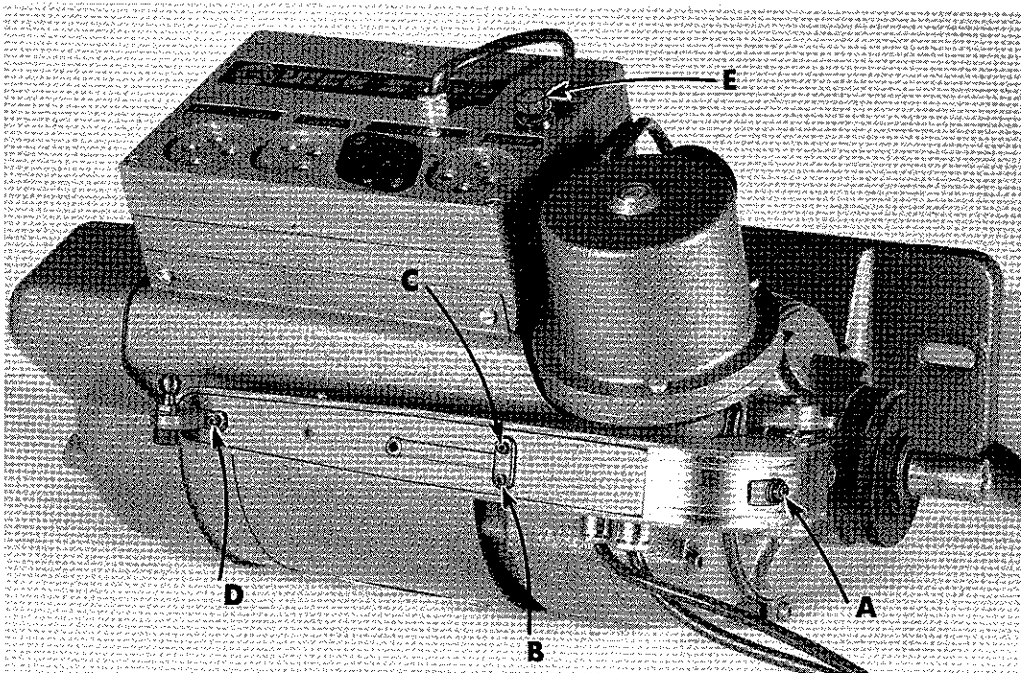

Fig. 42
Adjustment of the micro switch, located on the right hand side of the clutch arm, which actuates the magnetic clutch, should be made as follows; with the treadle in "rest position". Turn the set screw (A, Fig. 42) in a clockwise direction until the switch closes and the auxiliary control starts running. Now, turn the set screw in a counterclockwise direction to the position where the auxiliary control stops running. Continue to turn the set screw counterclockwise 1/2 to 1 complete revolution to obtain the correct setting of the switch.
However, if the needle travels right through the down position to the up and trim position, this indicates micro switch is open. Screw (B, Fig. 42) should be turned clockwise until micro switch is closed when treadle is in rest position.
If the down only position is desired, turn screw (B, Fig. 42) clockwise until micro switch is closed when treadle is in the rest position.
Screw (C, Fig. 42) is for adjustment of the micro switch which activates an automatic presser foot lifting mechanism. This assist is not available at the present time. It should be remembered not to turn this screw all the way in as it will affect the function of screw (B).
Screw (D, Fig. 42) should have only enough tension on the spring to return the treadle to the rest position after it has been heeled.
This unit incorporates a 2 1/2 AMP, 250 V fuse as a safety feature located at (E, Fig. 42).